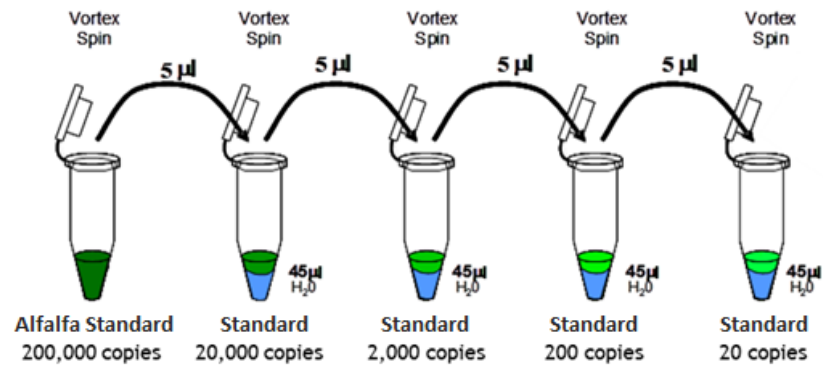

Figure 1. Four serial standard dilutions are made from RR Soy Standard to perform two standard curves.
05. As represented in Figure 1, four serial dilutions should be prepared starting from the undiluted Alfalfa Standard containing 2×10^5 copies. For this, add $5 \mu\text{L}$ of the alfalfa standard and $45 \mu\text{L}$ of nuclease-free water, until the preparation of the lowest concentration containing 20 total copies